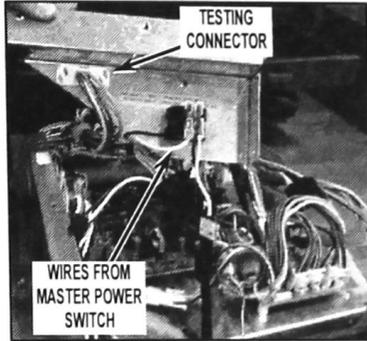

FIGURE 13
**NOTE:** Following the removal of the screws, the switch plate assembly will still be held to the original HV box assembly by the two wires from the master power switch (and, depending on model, possibly the end of line testing connector). See Figure 13.